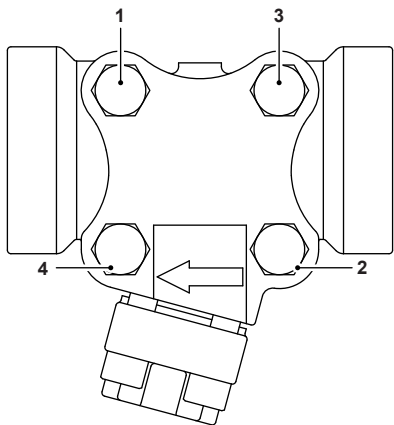

Fig. 7.1
- Apply anti-seize compound (ROCOL SA-610) liberally and completely to the connector bolts (3), including all mating threads and connector bolt head bearing/contact surfaces, ensuring full coverage over the entire engaged thread length in accordance with ASME PCC-1 guidance. Care shall be taken to achieve a uniform coating and to avoid contamination of gasket sealing faces.
- Finger tighten the connector bolts (3) ensuring that the trap unit is parallel to the pipeline connector.
- Tighten the connector bolts (3) in a diagonal (star) pattern i.e. 1-2-3-4 as shown in Figure 7.1, using multiple passes in accordance with ASME PCC-1 to ensure even gasket compression.
- Tighten the connector bolts (3) to the recommended torque value (see Table 1, page 15).